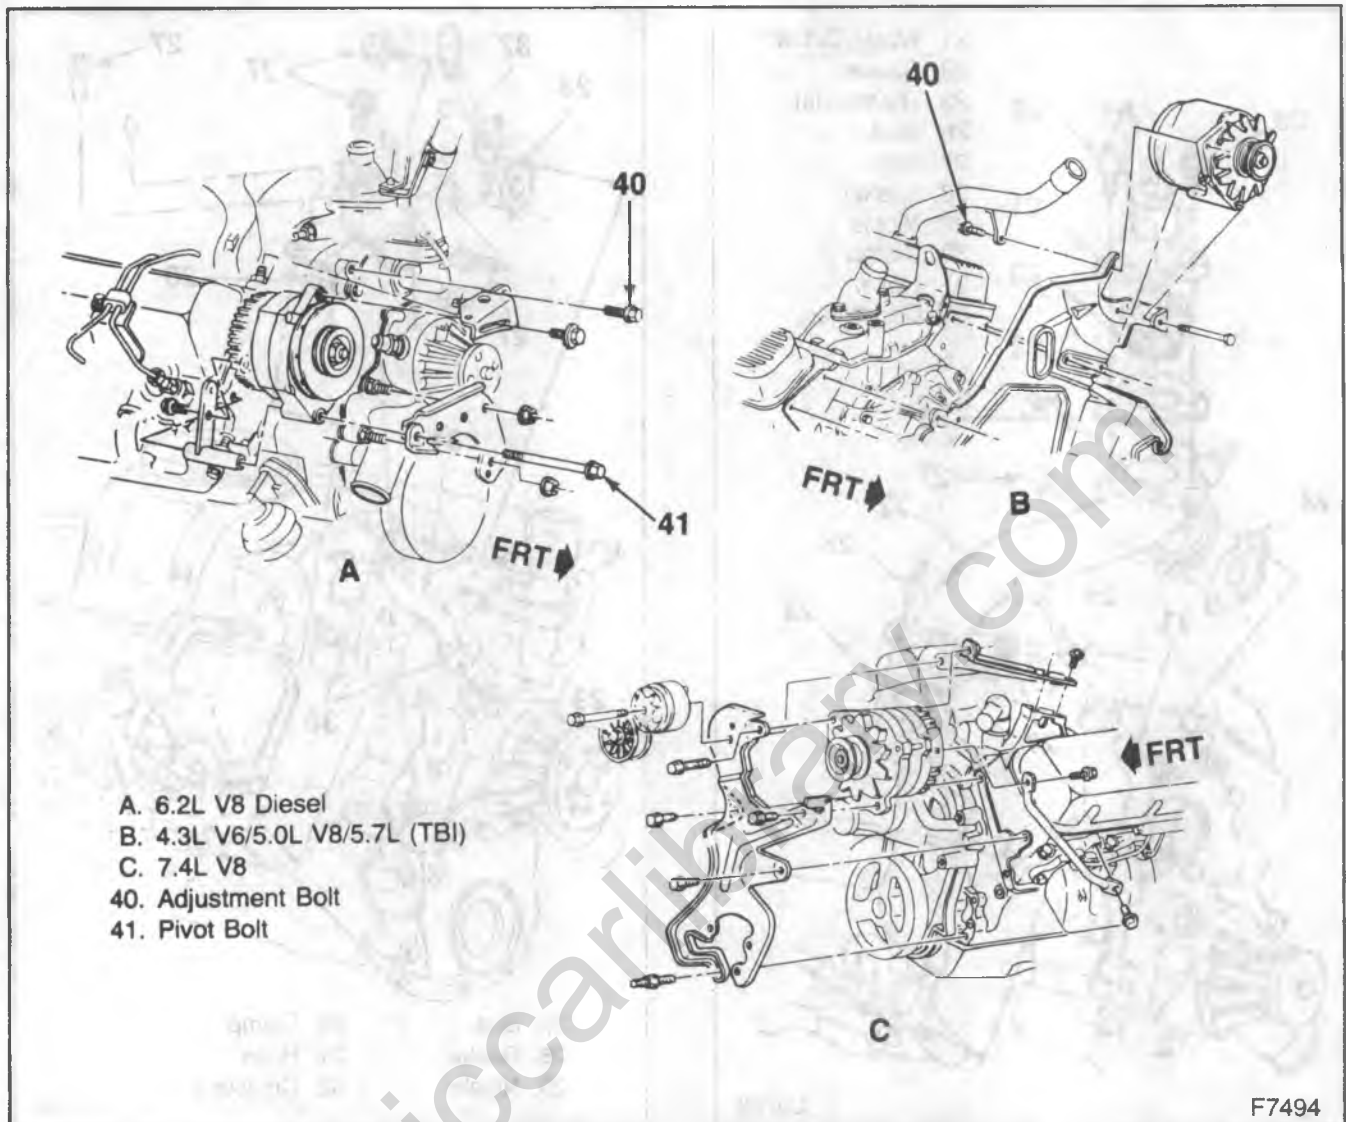

Figure 18—Generator Mounting (G-Models)
- Loosen the component driven by the belt (figures 18 through 29).
2. Loosen the component in its mounting bracket (figures 18 through 29).